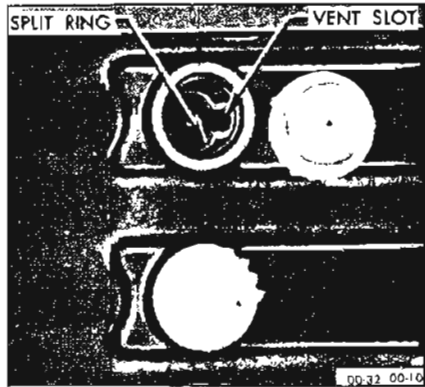

Figure 00-32—Battery Filler Well
**NOTE:** Do not overfill. Clean top of battery; if wet with acid, neutralize with soda and wash clean. See Figure 00-32.